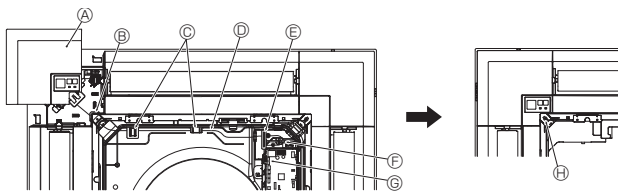

Fig. 9-9
9.4.5. Installing signal receiver (Fig. 9-9)